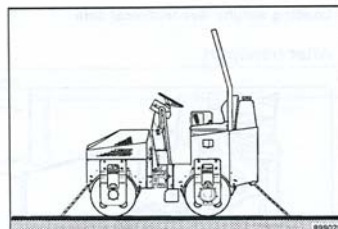

Fig. 49
- Tie the machine to the transport vehicle, attach the tying gear (Fig. 49) to the front and rear frame.